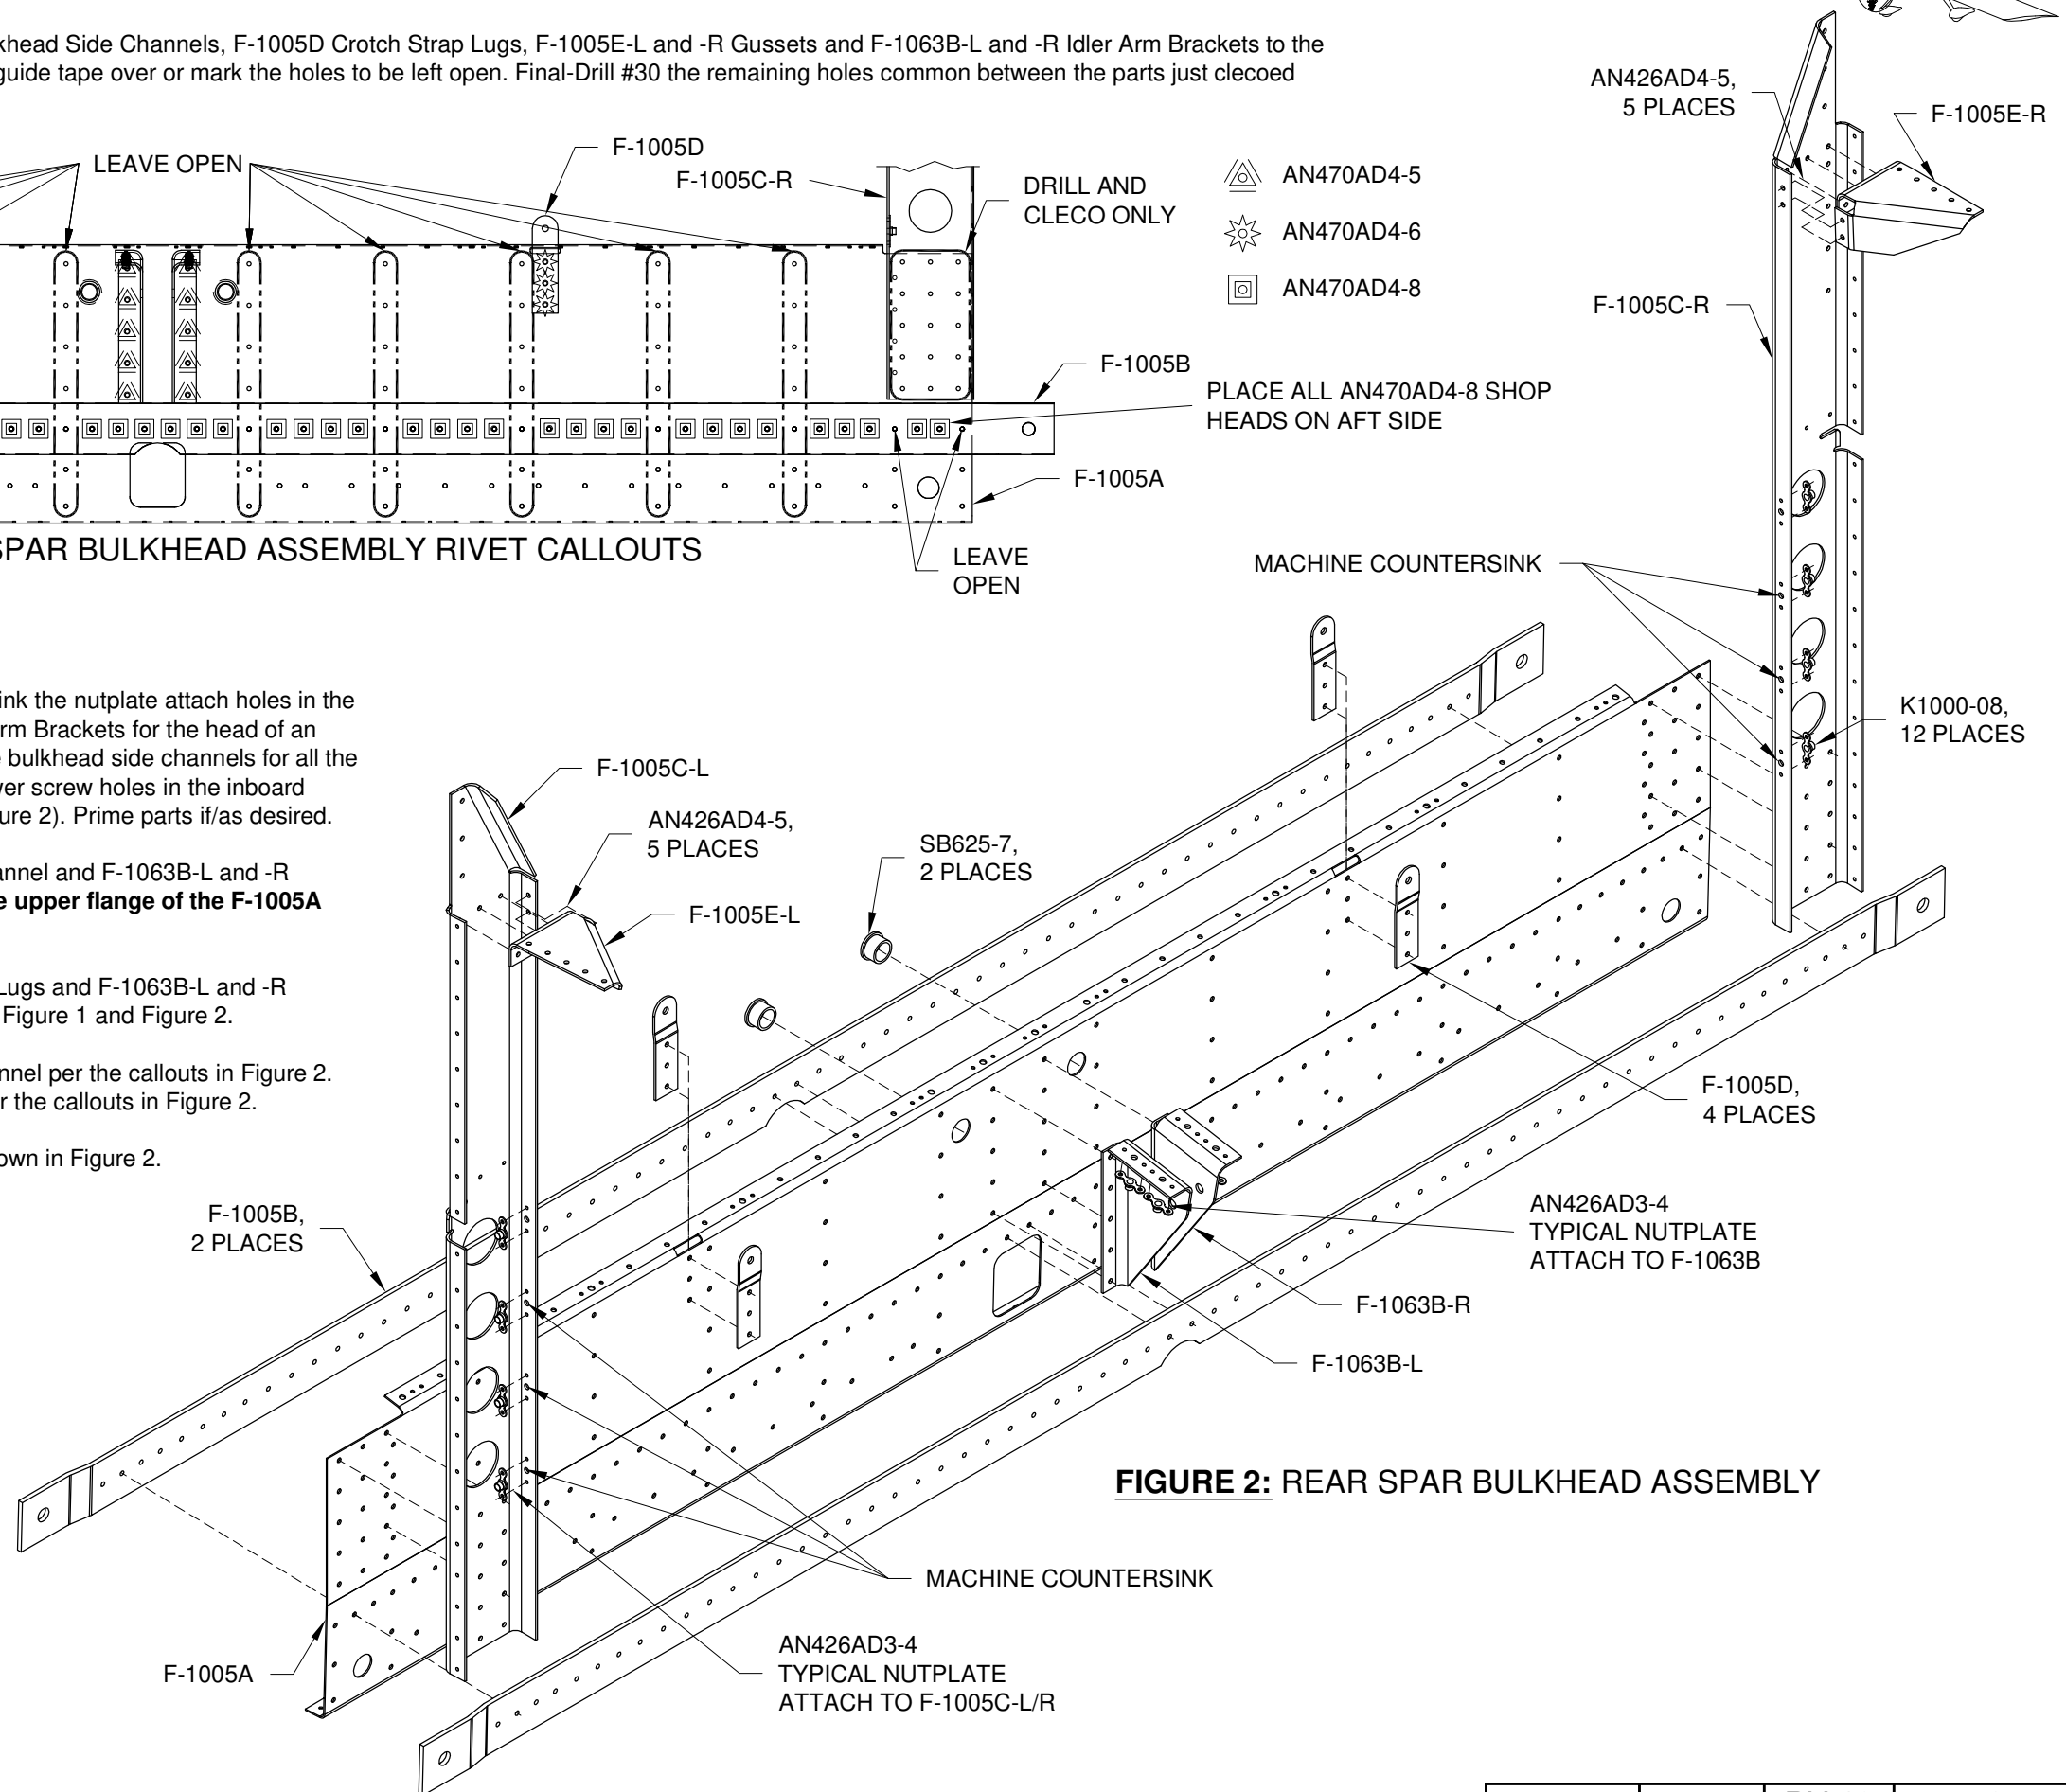

FIGURE 2: REAR SPAR BULKHEAD ASSEMBLY
Step 7: Install snap bushings into the F-1005A Rear Spar Bulkhead as shown in Figure 2.